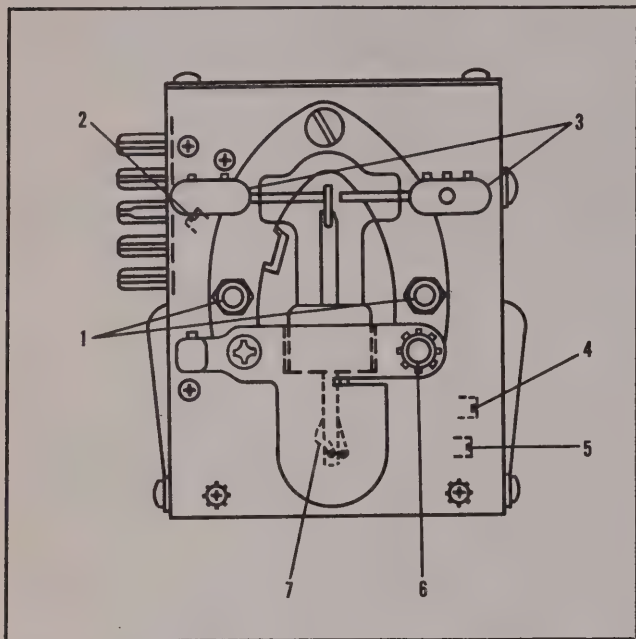

Figure 5-11. Keying Relay K102 and Vacuum Contact S116
(1) Loosen the setscrews that hold the connecting wires to the fixed contact terminals (No. 3 in fig. 5-11), and remove the wire connector.
(2) Loosen the stud (No. 6 in fig. 5-11) until the clamp around the base of the vacuum contact becomes loose enough to allow the removal of the glass vacuum tube. Remove the tube containing the switch by pulling glass tube straight up.
(3) Note the split collar on end of glass operating arm that connects vacuum contact to relay case. Loosen setscrew in this collar so that collar is loose on its shaft.
(4) Before attempting to install the new vacuum switch, note the manner in which the movable switch arm (extending out of bottom of glass bulb) engages the wire actuating arm (No. 7 in fig. 5-11). When installing the new switch, the arm of the switch must be securely engaged between the two wires that form the actuating arm (No. 7 in fig. 5-11). To prevent damage to the new switch, it is recommended that the two wires forming the actuating arm, be spread apart very slightly while the vacuum switch arm is being engaged. This may be accomplished by using a screw driver blade to spread the wires approximately 1/32".
(5) Place rubber gasket in position and insert new vacuum switch in socket. Be sure movable switch arm is securely engaged in wires of operating arm No. 7.
(6) Retighten stud (No. 6 in fig. 5-11) and reconnect wires to terminals labelled No. 3 in figure 5-11.
(7) With relay in normal unoperated position, the vacuum contact (in glass bulb) should be closed and resting firmly against the fixed contact that is connected to RECEIVER terminal of transmitter. To se-
(8) The timing adjustment of the vacuum contact can now be made. Remove top cover of keying relay case by taking out two Phillips screws on the top surface.
(9) Examine the interior of the relay and note double row of contacts near top. Also note that movable contact arms are all attached to a thick bakelite plate located in the center of the case. By using a thin tool, with a notch in one end, that is capable of straddling this bakelite plate, it is possible to grip the bakelite and operate the relay mechanically by pushing the plate from side to side. Note that as this bakelite plate is moved, all movable contact arms in the relay as well as the movable arm in the vacuum contact will also move.
(10) With the relay in the normal "rest position," three internal relay contacts, on the side nearest the plug, are closed and the vacuum contacts (in external glass bulb) should now be resting firmly against the fixed contact that connects to the RECEIVER terminal on the side of transmitter case.
(11) If vacuum contact is not set properly, loosen two studs (labelled No. 1 in fig. 5-11) that hold horse-shoe shaped yoke to relay case.
(12) Note adjustment screw (labelled No. 2 in fig. 5-11) that can be seen through hole on plug side of case. By rotating this screw, the position of the movable arm in the vacuum contact can be adjusted as desired.
(13) After vacuum contact has been adjusted to correct position while relay is in rest position, the relay should then be operated mechanically (as described in step No. 9) and the action of the vacuum contact and the 5 normally open contacts on the interior of the relay case should be noted.
(14) As the relay is operated mechanically, the correct sequence of contact make and break is as follows:
(15) If above sequence is not obtained, further adjustments of screw labelled No. 2, in figure 5-11 is
(16) After adjustment has been completed, retighten two screws labelled No. 1 in figure 5-11.